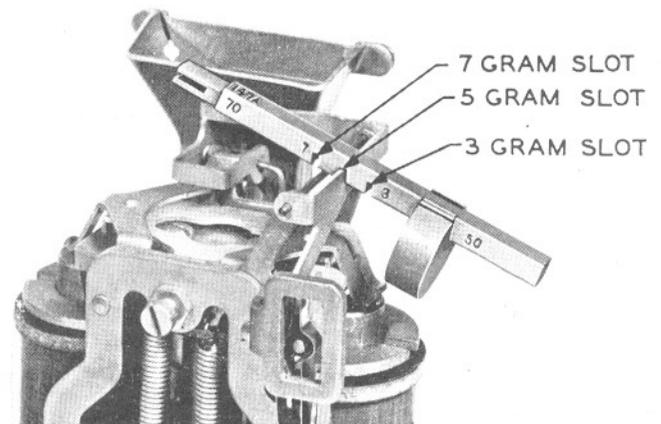
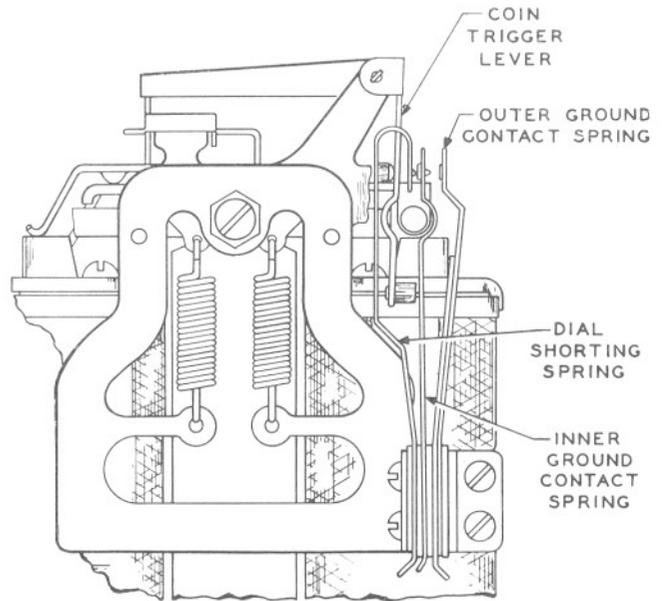

FIG. 6 — GAUGE FOR GROUND SPRING CONTACT PRESSURE
FIG. 11 — 3-SPRING (DIAL SHORTING) RELAY — CONTACT SPRING GUARD CUT AWAY
**5.05** Ground spring contact pressure shall be minimum 5 grams measured with the 147A gauge (see Fig. 6). Proceed with test as follows:
1. With ground lead connected to coin collector, place 5-gram slot of 147A gauge on horizontal portion of coin trigger lever (see Fig. 6).
**7.02** With the coin trigger and operating arm in their normal positions, the dial shorting spring (see Fig. 11) shall follow the inner ground contact spring for a minimum of 0.010 inch; judge visually.
**7.03** With the coin trigger tripped and the operating arm in its normal position, the force required to open the contacts between the inner and outer ground contact springs (see Fig. 11) shall not be less than 3 grams. This pressure shall be measured with the 147A gauge (see Fig. 6).